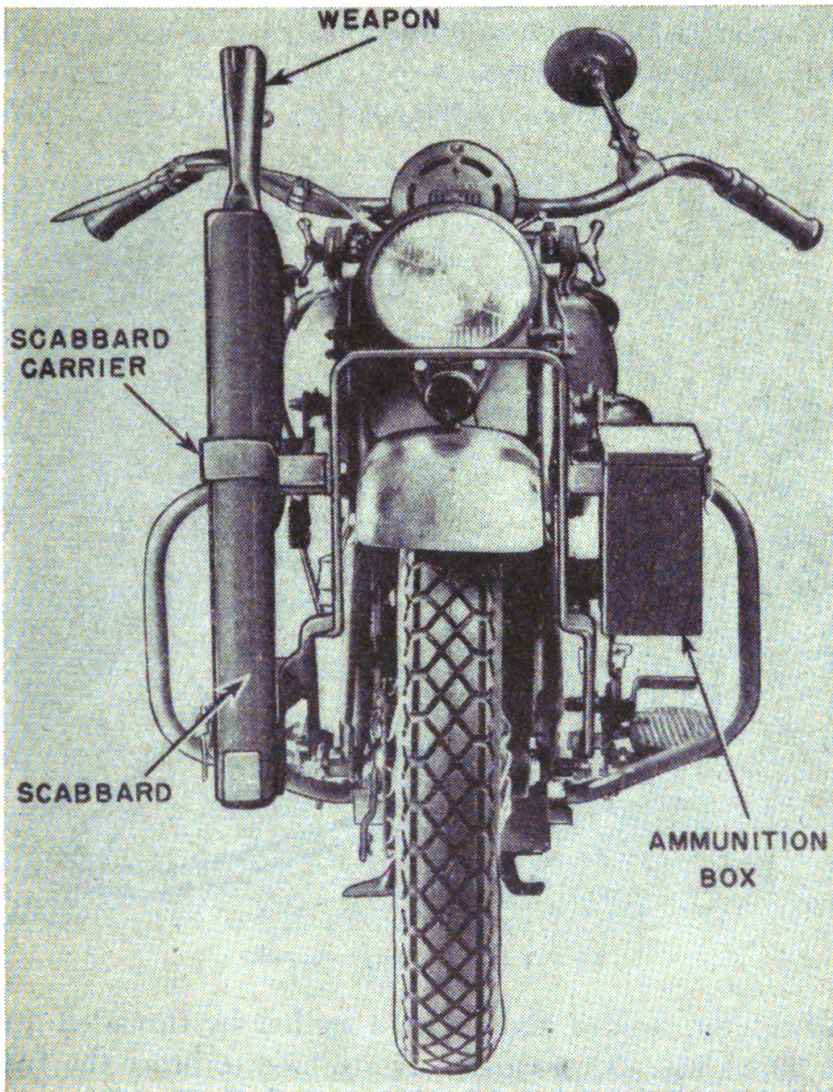

FIGURE 110.—Front view of a military motorcycle.
(2) Leg shields are of sheet metal, attached to the front safety guards. They act as brush guards and provide protection against wind and rain.
(3) The windshield is a curved transparent window, mounted in a light steel frame which is clamped to the handle bars. The window section is adjustable both as to height and angle of tilt by wing screws. Leather aprons may be fastened to the windshield frame to afford greater protection from the weather.
*b. Tactical.*—Present military motorcycles are equipped with saddle bags, luggage carrier, ammunition box, and submachine gun (or other weapon carrier). Figure 110 shows an ammunition box and scabbard carrier mounted on a motorcycle.
**93. Side car.**—*a. Construction.*—(1) The side car consists primarily of a frame, an axle, a wheel, springs, and a body. The frame